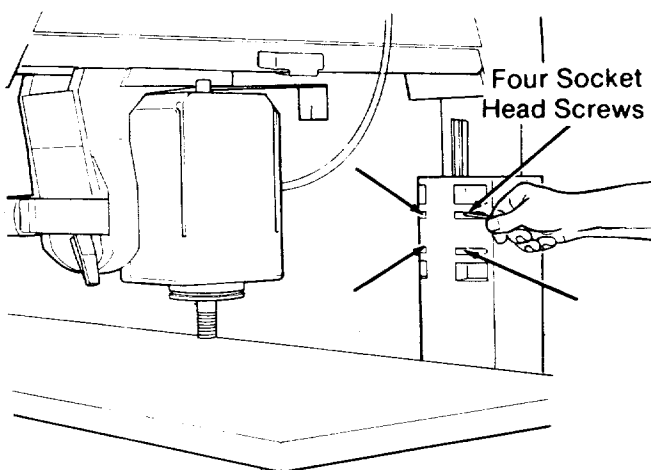

Fig. 105
11. Find the four screws in front of the column support (Fig. 105). Use a 3/16 hex “L” wrench to adjust these screws as described below.